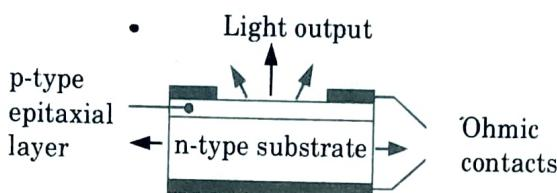

Fig. 3.4.1. The structure of a planar LED showing the emission of light from all surfaces.
2. This involves a *p*-type diffusion into the *n*-type substrate in order to create the junction as shown in Fig. 3.4.1. Forward current flow through the junction gives Lambertian spontaneous emission and the device emits light from all surfaces.